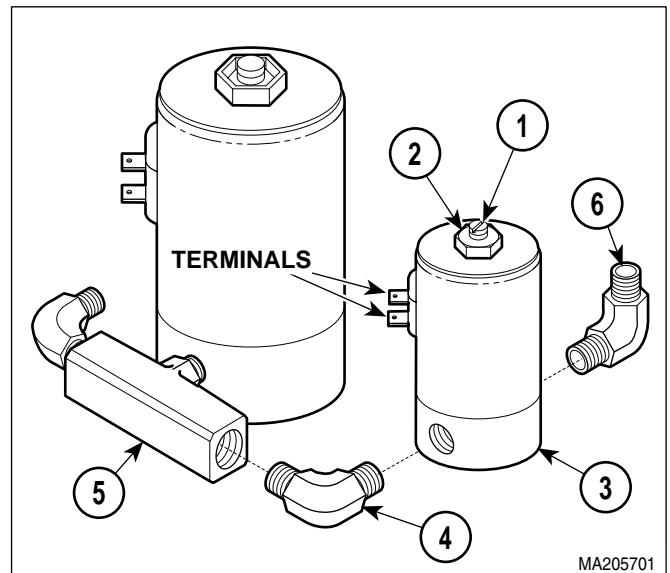

Figure 4-11. Vent Solenoid Fittings Removal / Installation
- (7) Remove manifold assembly (12) and spacer (12A) from base (13).
- (8) Hold screw (1, Figure 4-11) and loosen nut (2). Turn terminals out of the way.
- (9) Remove assembled vent solenoid (3) and elbow (4) from tee (5).
- (10) Remove elbows (4 and 6) from vent solenoid (3).
- (1) Coat the threads of elbows (4 and 6, Figure 4-11) with teflon tape.
- (2) Install elbows (4 and 6) on vent solenoid (3).
- (3) Hold screw (1) and loosen nut (2). Turn terminals out of the way.
- (4) Install assembled elbow (4) and vent solenoid (3) on tee (5).
- (5) Turn terminals of vent solenoid (3) so wires will connect easily to vent solenoid.
- (6) Hold screw (1) and tighten nut (2).